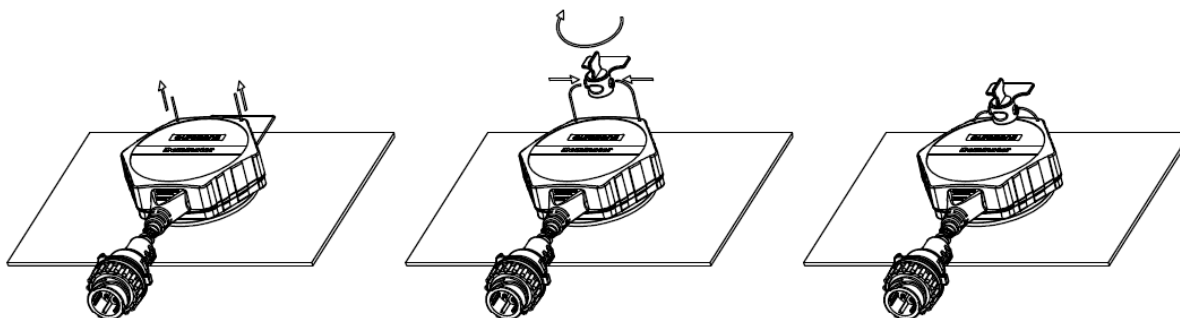

fig. 7.11. Sealing method 2
2. The sealing cable is threaded through the bayonet from below and through the sensor case upwards (fig. 7.11).